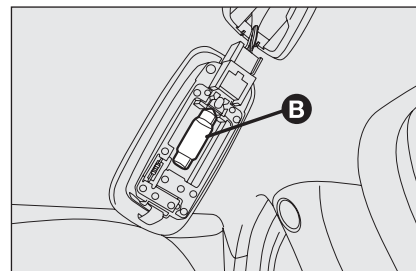

fig. 39
- ☐ replace the bulb **B-fig. 39** releasing it from the side contacts making sure that the new bulb is correctly clamped between the contacts.